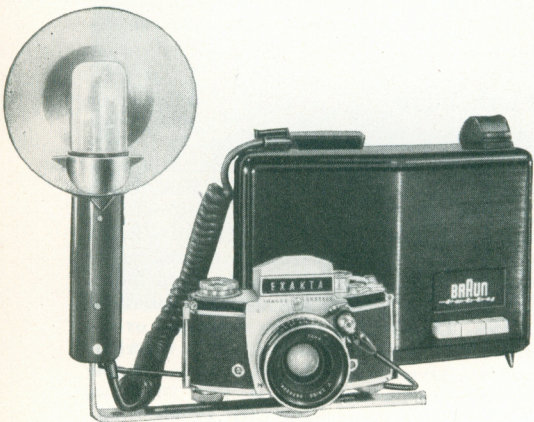

Fig. 30
The EXAKTA VX IIa/1961 has three synchronized contacts for flashlight exposures: X contact (12) for open flash with flash tubes and flash bulbs. M (22) and F (31) contacts for the use of flash bulbs at high shutter speeds. Both contacts are adjusted in accordance to the delay in firing of the flash bulbs. You will find more about it in the following tables. The adapter of the flash gun or the electronic flash unit has to put in the right contact given in the tables. It is advisable to wind up the shutter first. Fig. 30 shows EXAKTA in connection with an electronic flash unit.